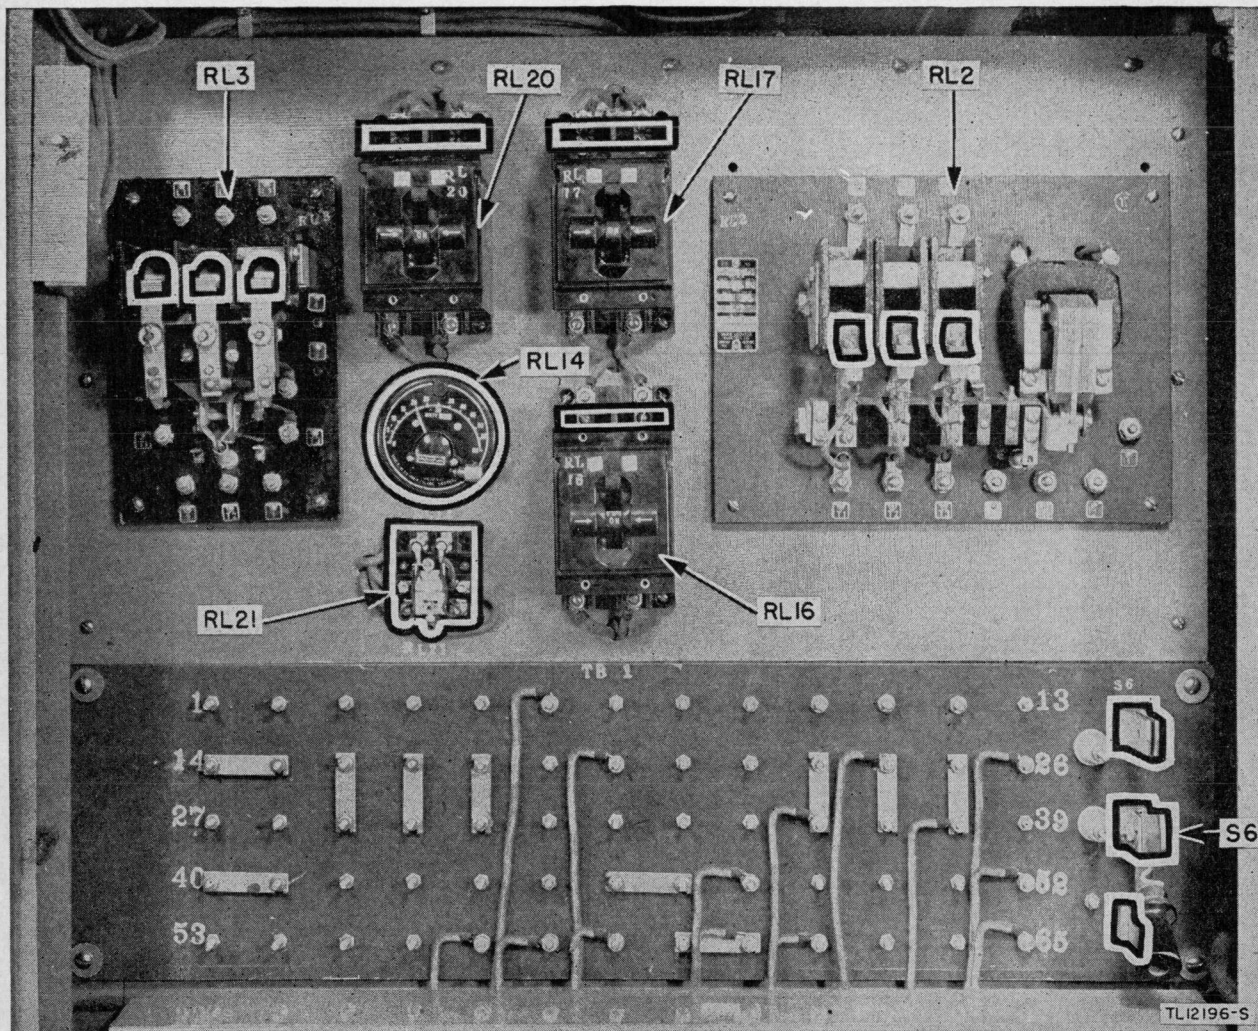

Figure 36. Terminal board No. 1.
| a. PREPARATION. (See par. 80a.)  | (2) Mask the openings at the top of circuit breakers RL16, RL17, and RL20 (fig. 36). |
| b. DISASSEMBLY. No disassembly necessary.  | (3) Mask relay RL21. (See fig. 36.)  |
| c. CLEANING. (See par. 80c.)   | (4) Mask time delay relay RL14. (See fig. 36.)                                       |
| d. MASKING. (1) Mask the contacts of con-tactors RL2 and RL3. (See fig. 36.) | (5) Mask blades and jaws of switch S6. (Seefig. 36.)                             |